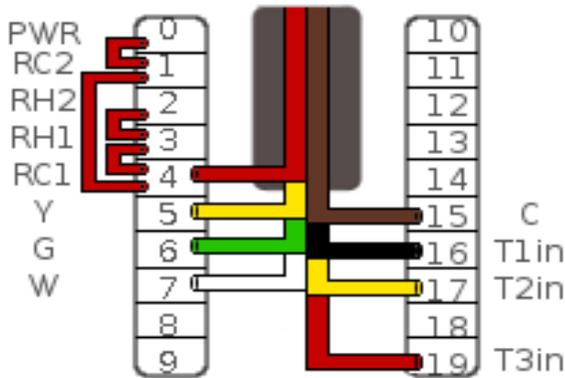

Figure 3: Single Compressor, Single Heater Wiring
- ▶ For single compressor, single heater installations (non-Heat Pump), wire the thermostat as shown in Figure 3, according to Chart 1. For any other HVAC configuration, please refer to the Wiring Guide (Section 5).
- ▶ If a ground wire has not already been pulled to the thermostat's location, first see if there are any unused thermostat wires that you can use for Common (C). Otherwise, it will be necessary to run an **18 GAUGE ONLY** wire down the wall and feed it through the hole to the wall-plate.
- ▶ First, you must install the remote indoor sensor. Drill a 3/16th inch hole ~5 inches below the thermostat. Feed the stripped end of the indoor temperature sensor wire through the hole, angling upwards, and fish the wires out of the hole in the wall-plate*. Or, route the remote indoor sensor to the location in the house you wish to measure temperature. Connect sensor wires to wallplate according to Chart 2 and Figure 3.